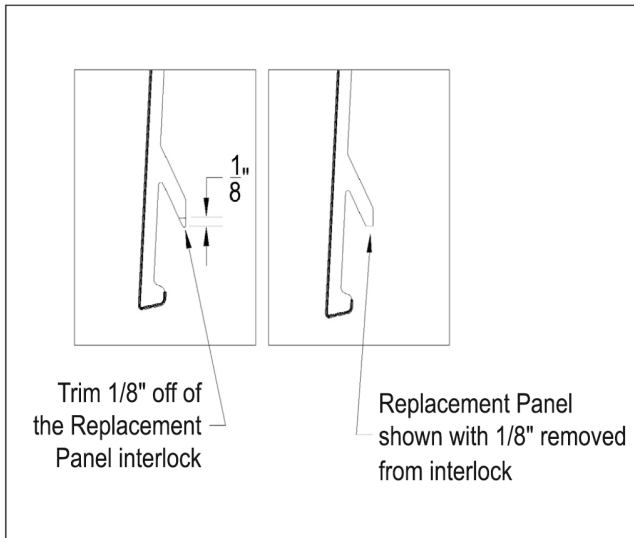

Figure 12
- Trim 1/8" off the inter-lock of the replacement plank (Figure 12).